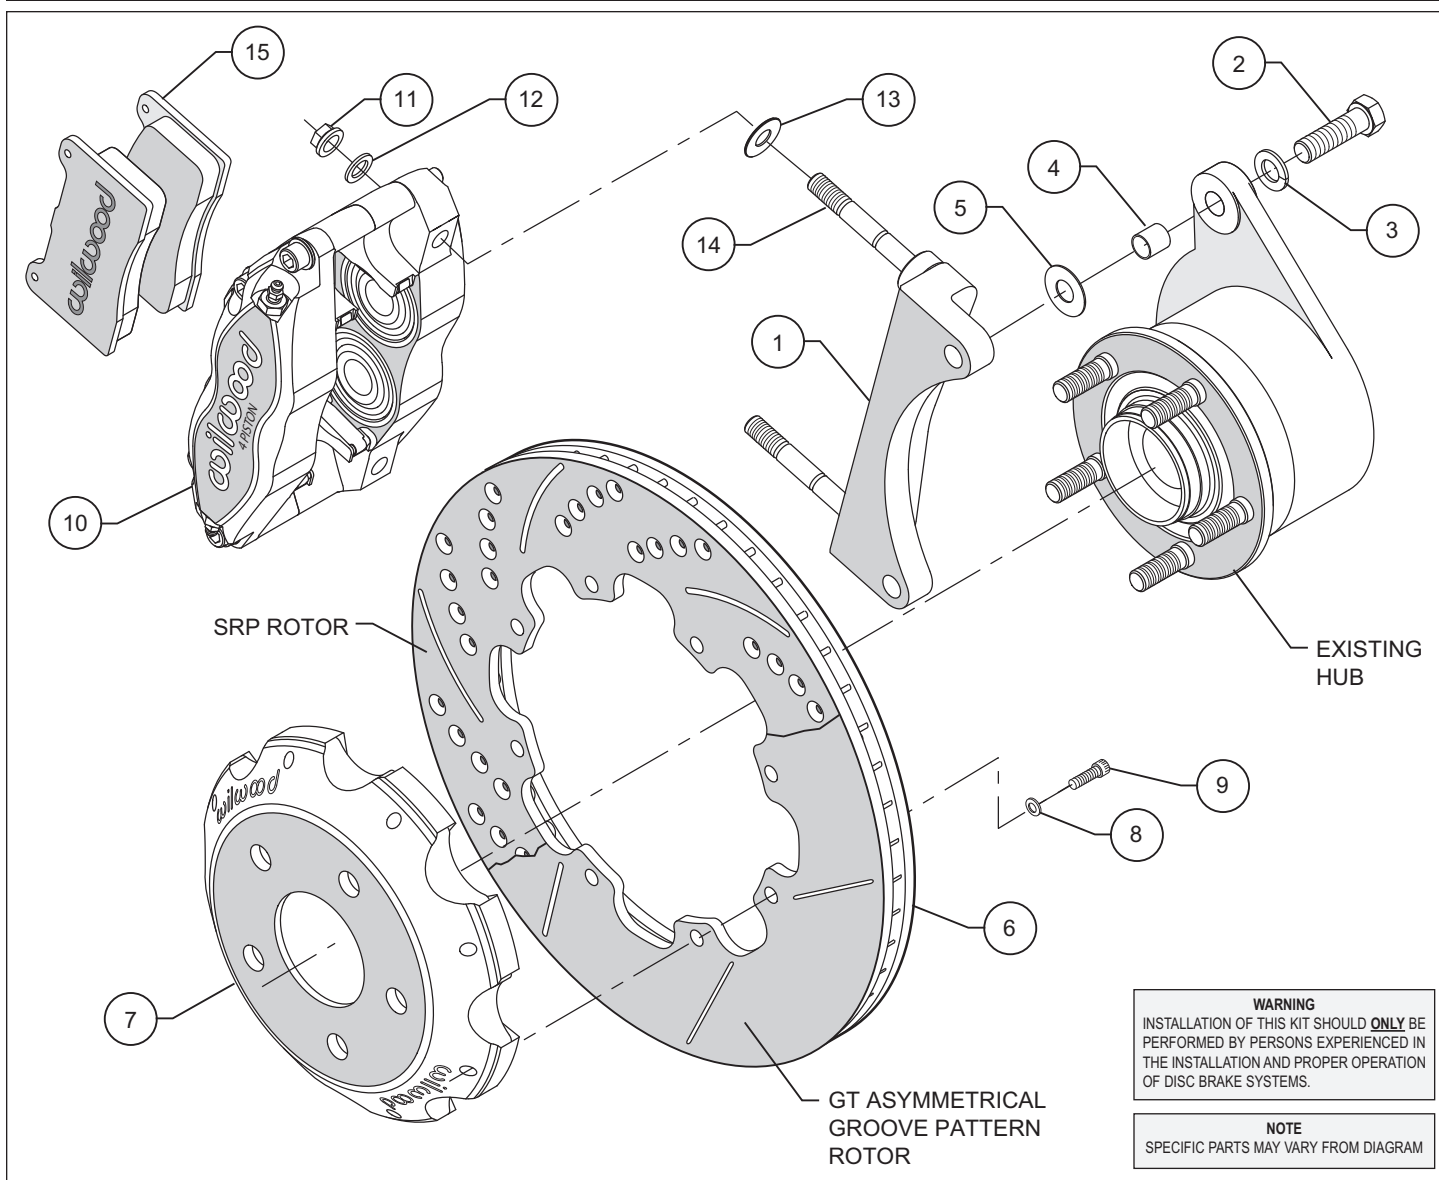

Figure 1. Typical Installation Configuration
- Insert one sleeve (4) each into the holes on the top and bottom spindle "ears" where the OEM caliper bracket was removed. The caliper mounting bracket assembly (1) should be installed first with clean, dry threads on the mounting bolts. Install the bracket from the front side of the spindle by sliding bolts (2) through lockwasher (3), sleeve (4), and flat washer (5). Place washer (5) between the bracket (1) and the front side of the spindle (see Figure 1). The bracket must tighten squarely against the side of the spindle body. Inspect for interference from casting irregularities, machining ridges, burrs, etc. Use one thin shim (5) between the spacer and spindle during initial trial fitting.